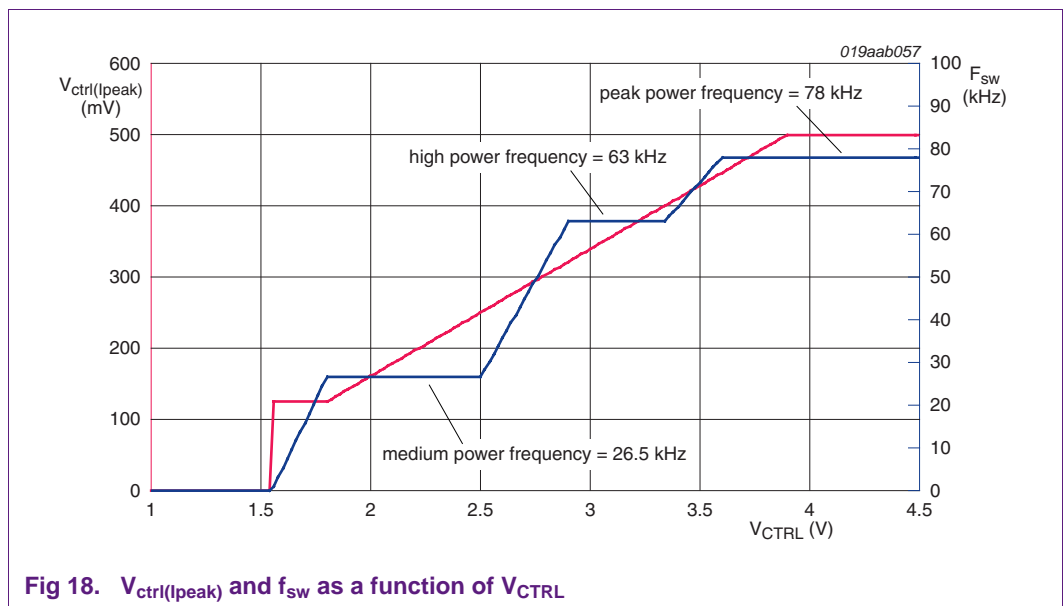

Fig 18. V_{ctrl(Ipeak)} and f_{sw} as a function of V_{CTRL}
- f_{sw} is the switching frequency, in this case 63 kHz (the "high power" area of the frequency curve, see Figure 18)
- f_{sw} is the switching frequency, in this case 78 kHz (the "peak power" area of the frequency curve, see Figure 18)
The CTRL pin controls the amount of output power, this is done by changing both the peak current and the switching frequency, see Figure 18.
See Figure 18.
Frequency reduction at low power — To ensure efficient operation at low output power, the peak current cannot be reduced below 25 % of its maximum value. Instead, to reduce the output power, the switching frequency is reduced. See Figure 18.